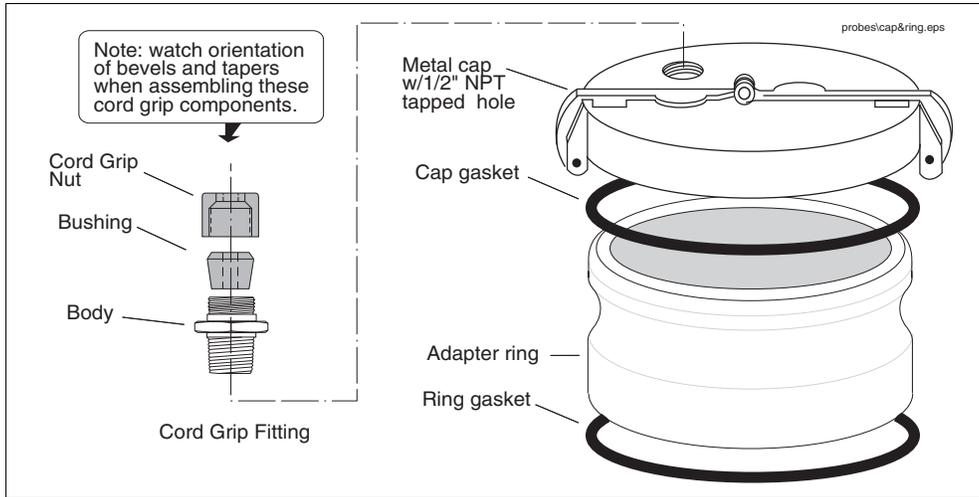

Figure 7. Metal Cap and Ring Kit
This riser cap kit contains an adapter ring which screws onto the 4" NPT riser and a quick-release metal cap which clamps onto the ring (Table 5). The cap comes drilled and tapped with a cord grip (Figure 7).
2. If you are installing the metal cap and adapter ring (see Figure 7 on page 10), screw the ring onto the 4" riser until the gasket contacts the pipe, then use a pipe wrench to tighten it an additional 3/4 turn. Push the cable through the metal cap and cord grip, then clamp the cap onto the ring.
2. If you are installing the metal cap and ring (see Figure 7 on page 10), screw the ring onto the 4" riser until the gasket contacts the pipe, then use a pipe wrench to tighten it an additional 3/4 turn. Using UL-classified pipe sealant (suitable for the fuels involved), screw the cord grip fitting into the tapped hole and tighten. Place the cord grip bushing in the fitting. Discard the cord grip nut and loosely screw the Adaptor Nut from the AST kit onto the cord grip fitting (see Figure 3 on page 6). Push the cable through the metal cap, bushing, and Adaptor nut, then clamp the cap onto the ring. Make sure there is a minimal amount of slack between the probe and cap, then tighten the Adaptor Nut until the cable is held firmly.